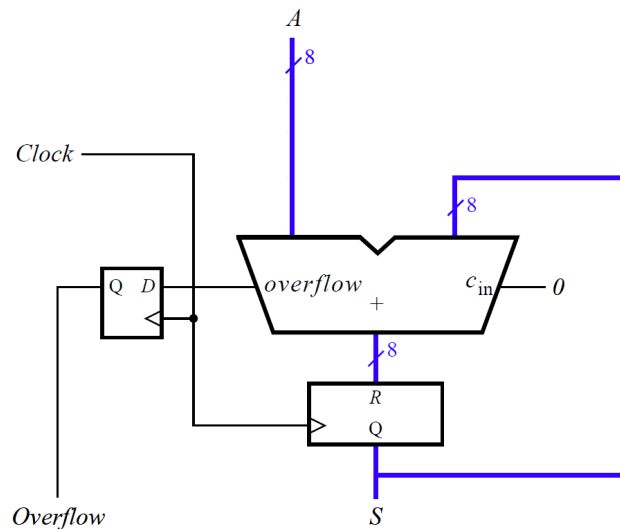

Figure 2: An eight-bit accumulator circuit.
**PRELAB TODO:** Write Verilog code that describes the circuit in Figure 2. Simulate your code by choosing appropriate data for inputs *Clock* and *A*. Demonstrate the output of *S* and *Overflow* in your simulation waveforms.